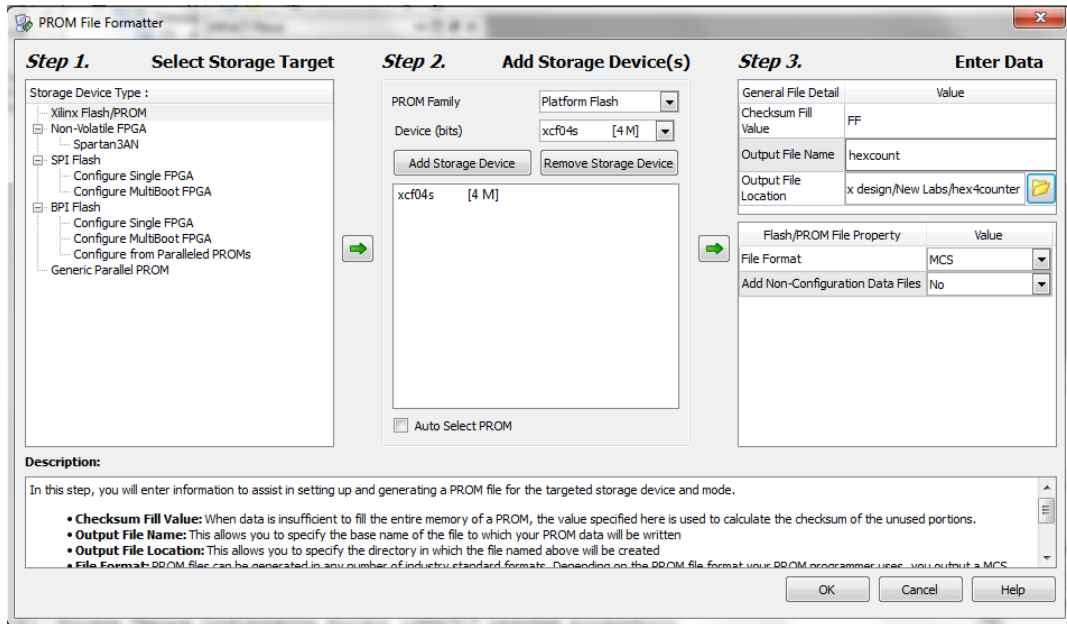

Figure 5 ISE Completed PROM File Formatter Window
Step 3: Enter *hexcount* as the *Output File Name*. Use the browser button to set the *Output File Location* to the current project (*hex4counter*) folder. The formatter window should now appear as in Figure 5.